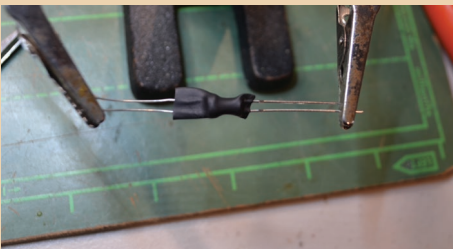

Fig. 5
2. Solder one leg of each jack into place on the bottom PCB [Fig. 5]. Make sure the jack lies perfectly flat on the PCB. Put the faceplate on and solder the rest of the jack legs into place, then take the faceplate off afterwards. We do this to ensure the jacks fit perfectly in the holes.